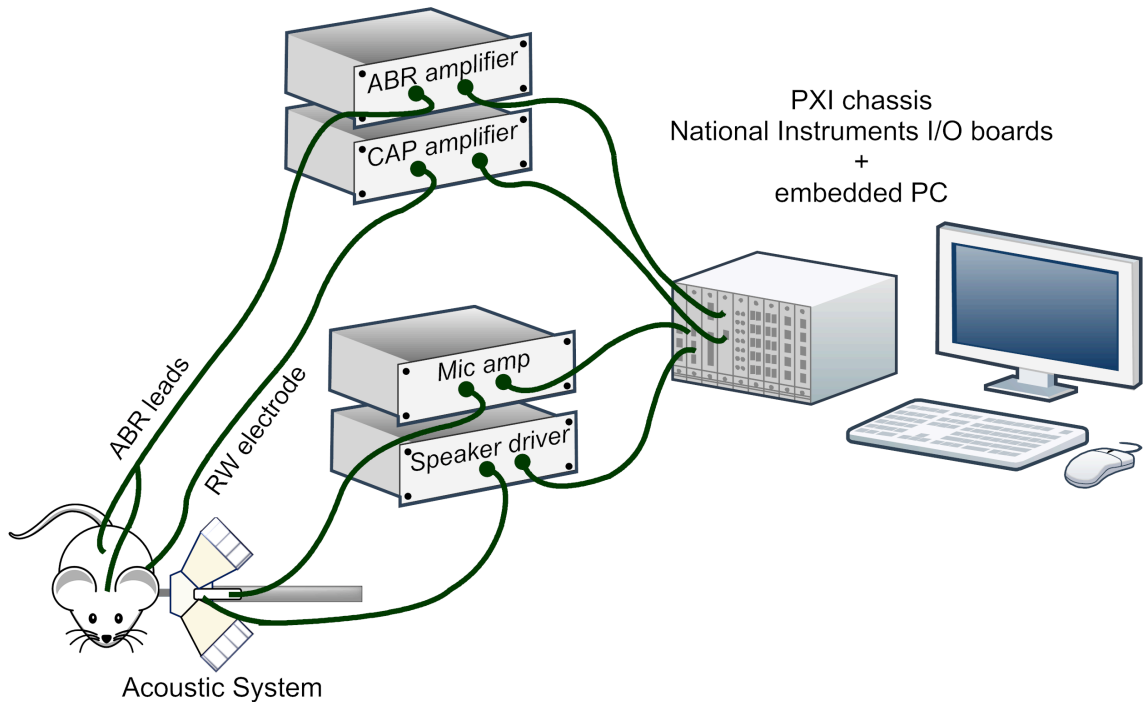

Figure 1: Schematic of the basic experimental setup.
Figure 1 illustrates the basic setup of the CFTS and is a useful point of reference throughout this user’s guide. The animal in the diagram is fitted with an acoustic assembly that has two earphones whose outputs mix at the assembly tip, and a microphone coupled with a small probe tube that measures the sound pressure at the assembly tip. Auditory stimuli are generated digitally and amplified by external power amplifiers which drive the two earphones. The output of the probe-tube microphone is amplified and sent to an I/O board. The microphone output is used both to calibrate the acoustic outputs from the earphones and to record otoacoustic emissions. Figure 1 also shows leads attached to the animal at the vertex for recording ABRs and at the round window (RW) for recording CAPs. These signals are amplified and routed to the I/O boards.
One of the advantages of the *Cochlear Function Test Suite* is its flexibility with respect to the I-O boards installed in the PXI chassis. The (small) price paid for this flexibility is the need to tell the CFTS where the various signals (e.g. those illustrated in Figure 1) are connected to the National Instruments boards. This should be a one-time procedure; there is no need to respecify the hardware configuration from experiment to experiment (unless the wiring set-up changes).
Cal Mic Gain (dB) 40	} Enter gains of microphone amplifiers (see Fig. 1)